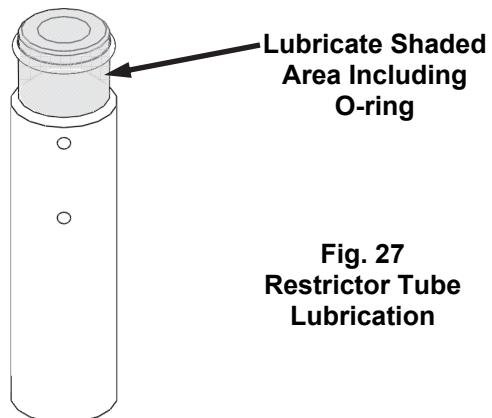

Fig. 27
6. Install the o-ring on the restrictor tube (Fig. 27) if removable. Apply lubricant sparingly over the o-ring. Place the restrictor tube in the bottom of the mix pan for sanitizing. Make certain that lubricant does not block the mix inlet hole on the restrictor tube.